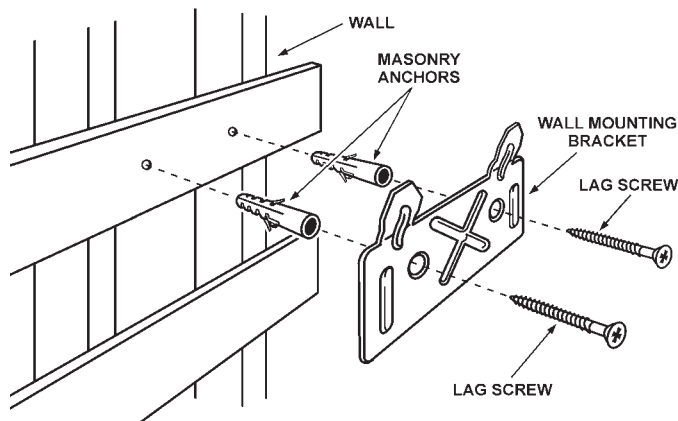

FIGURE 3A.
4. Cut two sections of 1/2 inch plywood or equivalent material 3 inches in height. The length of each section should be sufficient to span the width of the wall studs. See Figure 3A.
5. Use appropriately sized nails or wood screws to attach the two wall supports to the wall as show in Figure 3A.